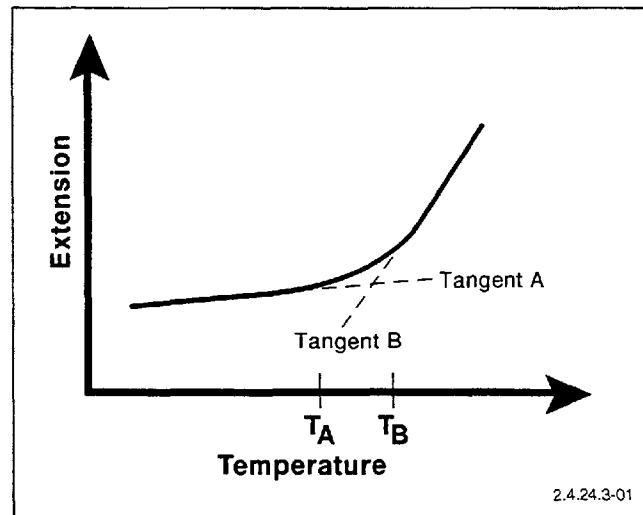

Figure 1
5.9 The glass transition is determined by a construction procedure on the transition region of the extension versus temperature curve (Figure 1).